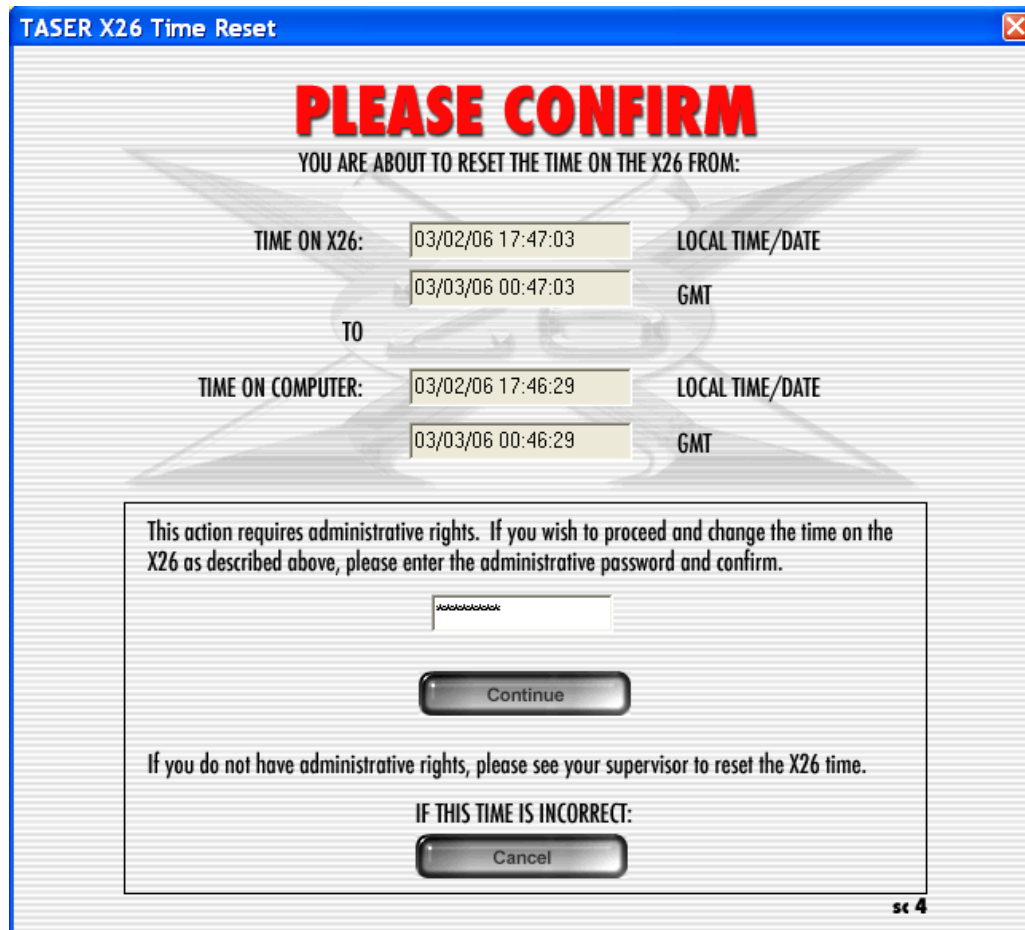

Figure 17
- c. A **PLEASE CONFIRM** dialog box (Figure 17) will appear to verify that you want to change the time in the X26 device. Changing the time requires the case-sensitive password located on the X26 Dataport CD case. You also may obtain the password by contacting TASER International Technical Support at 1.800.978.2737.